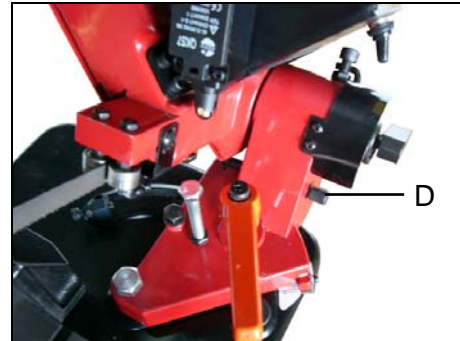

Fig. 3
1. Raise saw head to 45 degree and position it by pushing pin D in Fig.3.